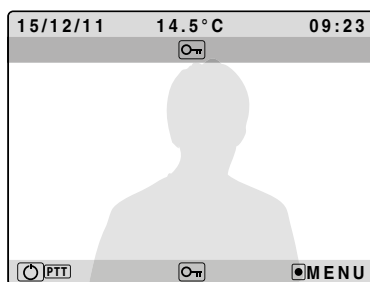

Fig. 2B
- To open the door press the  **Fig.2B**;